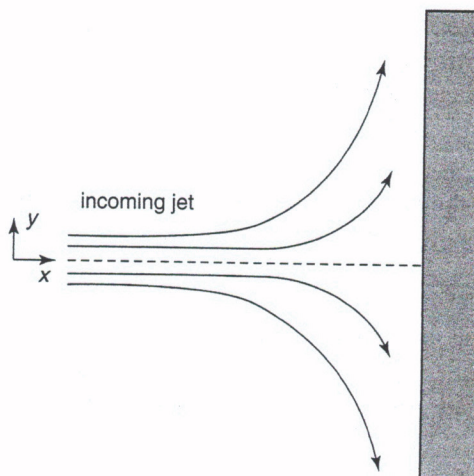

Figure 4.77
41. For the flow shown in Figure 4.77, a fluid jet impinges on a wall. The pressure around the jet is everywhere atmospheric. The jet produces a force on the wall. Does the fluid pressure p (normal force/area) have a role in determining the force on the wall? State your reasoning.